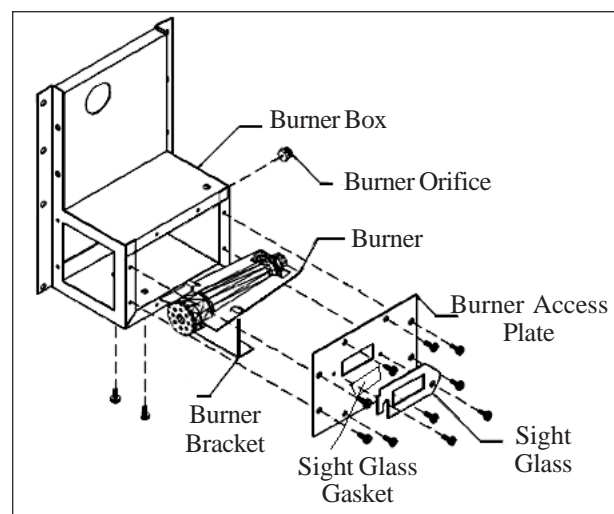

FIGURE 13
- Remove burner box cover. See Figure 13.
- Remove two (2) screws holding burner to burner bracket. See Figure 13.